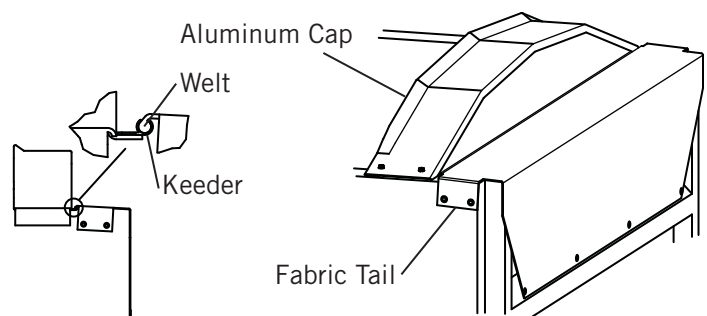

Figure 21
- 3) Figure 21.** Insert welt on tail into Keder on back of cap and center on width. Use light oil to slide welt in keder.